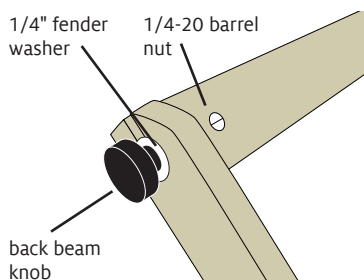

FIGURE 12: REMOVABLE BACK BEAM
17. Place the rear oval beam, rounded edge up, in the slots in the top of the double back beam supports. Place a 1/4" fender washer on a back beam knob. Hold a 1/4-20 barrel nut in the hole at one end of the removable back beam and screw the knob into it (Figure 12). Repeat on the other end of the removable back beam.